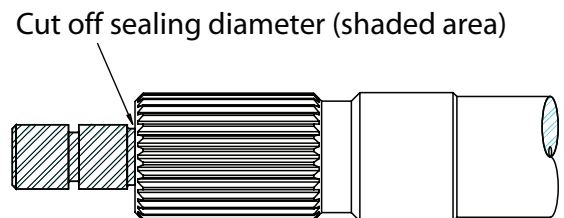

Figure 1
1. It is necessary to remove the end nub of the input shaft (this nub holds the o-ring that originally sealed to the GM 298mm converter's conical washer). See Figure 1.